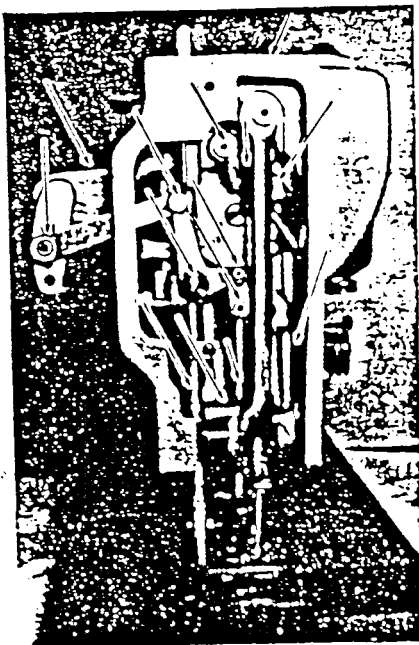

Fig. 2
OILING (Figs. 2, 3, 4 & 5)
1. Oil should be applied at each of the place designated by arrows in Fig. 2, 3, 4 & 5.